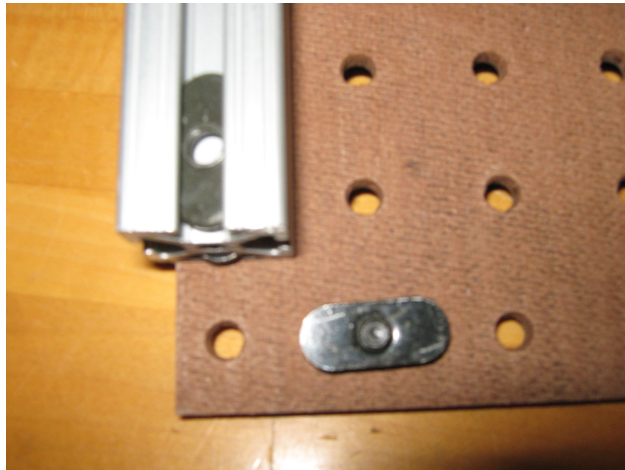

Figure 8: Slide the final piece of 80/20 onto the rear end of the robot.
7. Slide the last 15" 80/20 bar onto the two back sliders, as in Figure 8. Put two sliders in the top groove.